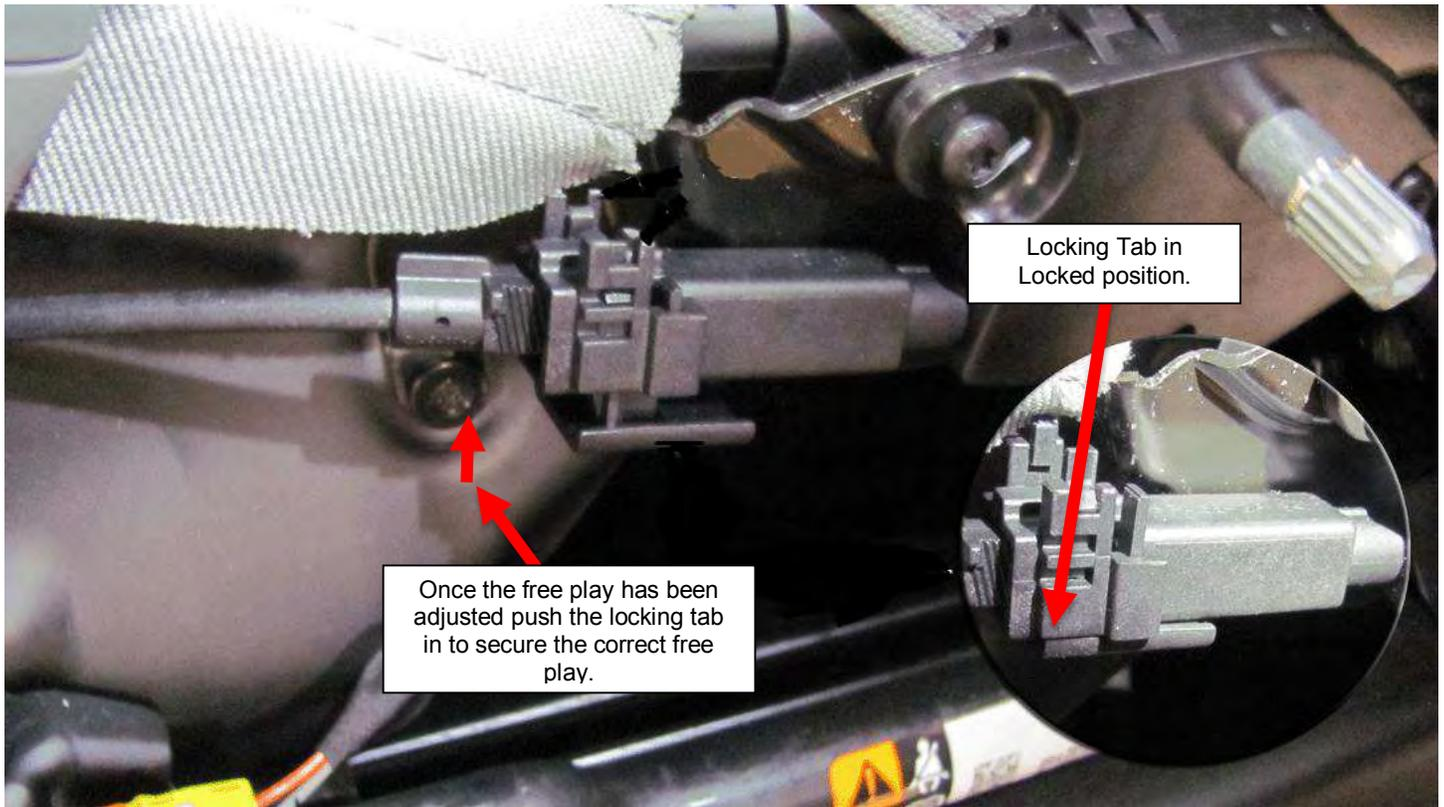

Figure 9
11. Once the free play has been adjusted, push the recliner cable adjuster pad up to lock the recliner cable adjuster tabs into place. Remove the 1 mm washer. The adjusting process is now complete, refer to figure 9.